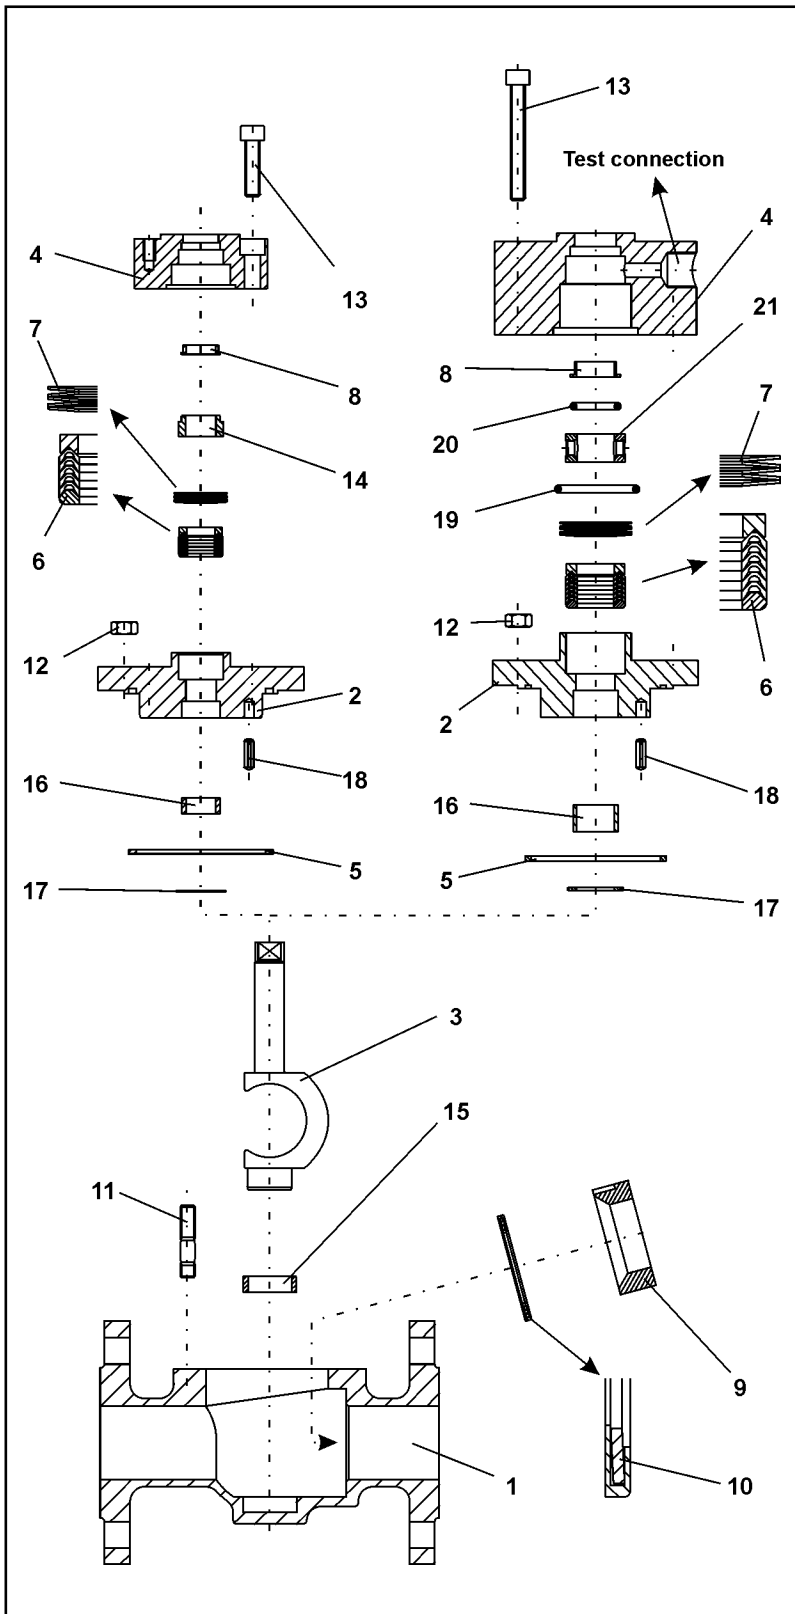

Fig. 3 - Exploded view of Series 23a Rotary Plug Valve
Insert the spring washers (10) from the top into the body (1) in the places intended for them. Refer to Fig. 3 for the location of the spring washers.
Refer to the Fig. 3 for arrangement of the packing rings.
Place the set of spring washers (7) on the V-ring packing. Refer to Fig. 3 for the arrangement of the set of spring washers.